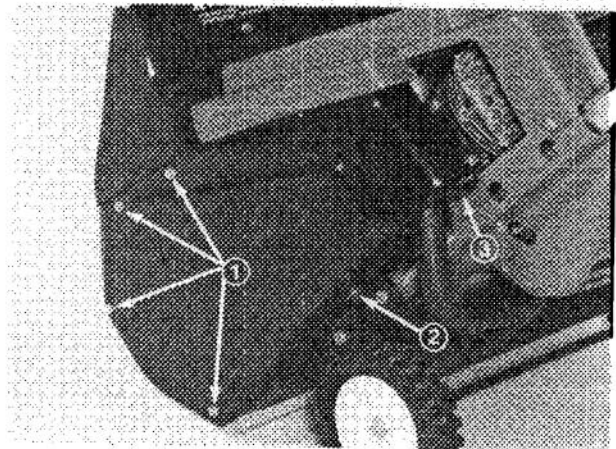

Figure 15
2. Remove washer faced capscrew, four screws, and locknuts holding drive cover in place (Fig. 15). Remove cover and set it aside.
7. Install drive cover with washer face capscrew, four screws, and locknuts (Fig. 15).